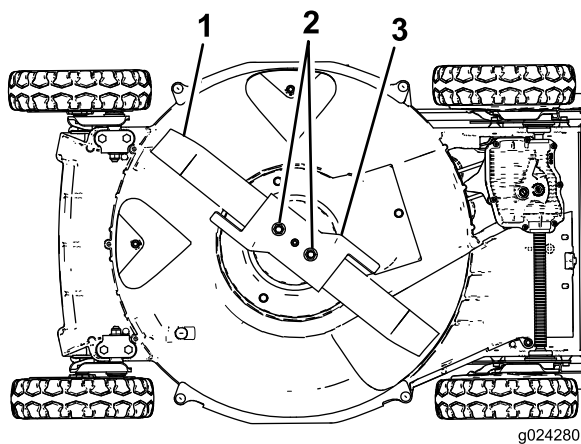

Figure 25
5. Tip the machine onto its **right** side (air cleaner up) as shown in Figure 25.